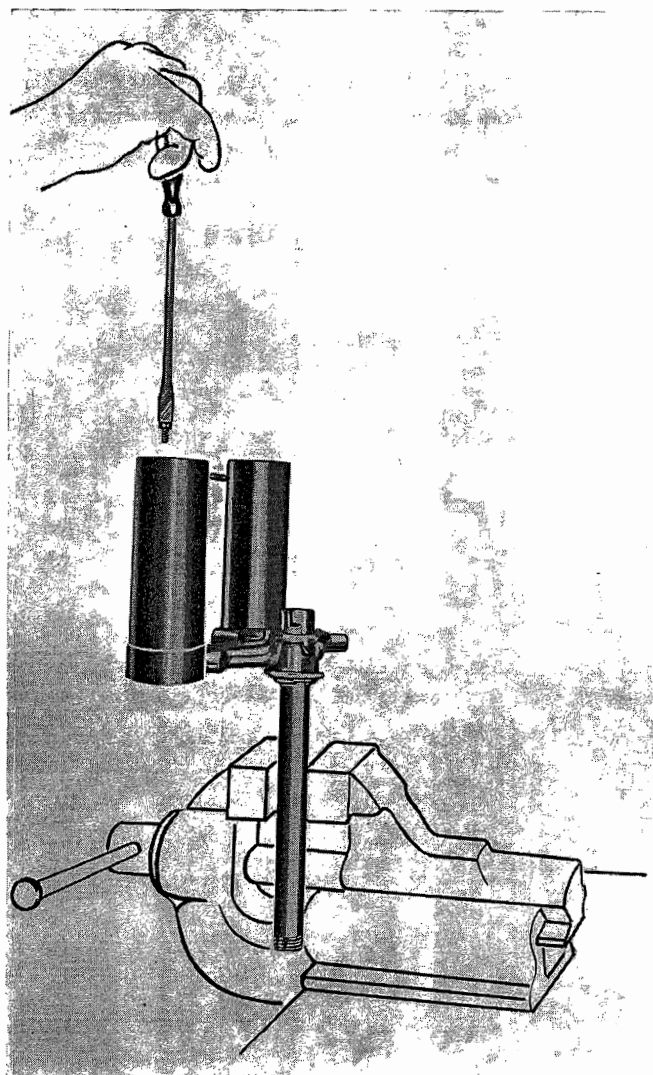

Fig. 112
To put in the screws (34) use a long, magnetized screwdriver; then, tighten completely with a stronger screwdriver (see Fig. 112).